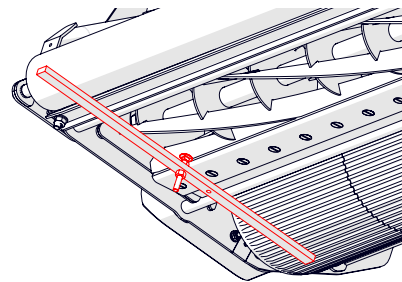

Fig. 9F - Repeat process on the other side
8. Repeat step 7 for the second position on the other side of the cassette (Fig. 9F).